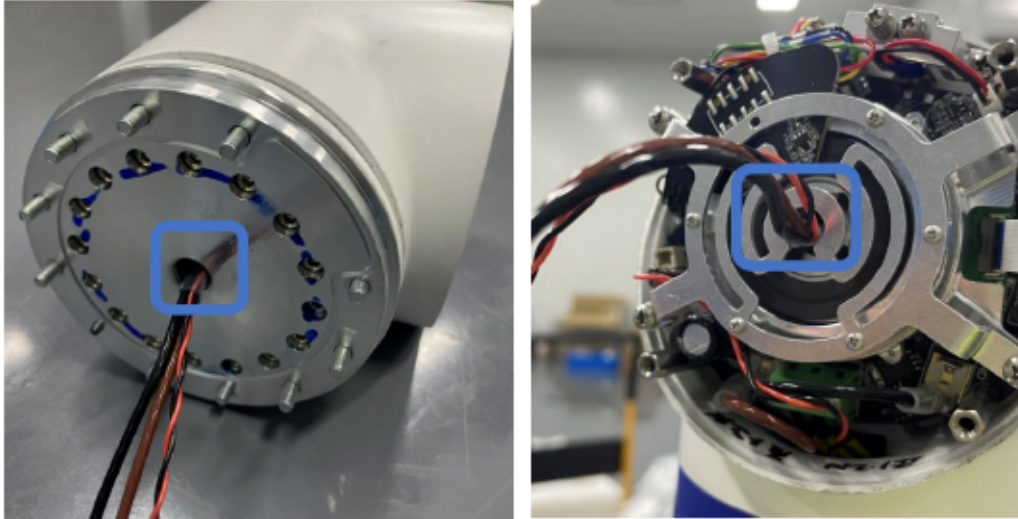

Figure 3-17 : Cables are routed to the joints
- Threading: The wires on the joint must be pair to the correct joint. Please also pay attention to the direction of the wires. The wires should be insert from the flange shaft side, then come out from the end cover. The wiring route are fixed to specified positions (these positions should have heat shrinking tubes on both flange shaft side and wire racks) as shown in **Figure 3-17** :